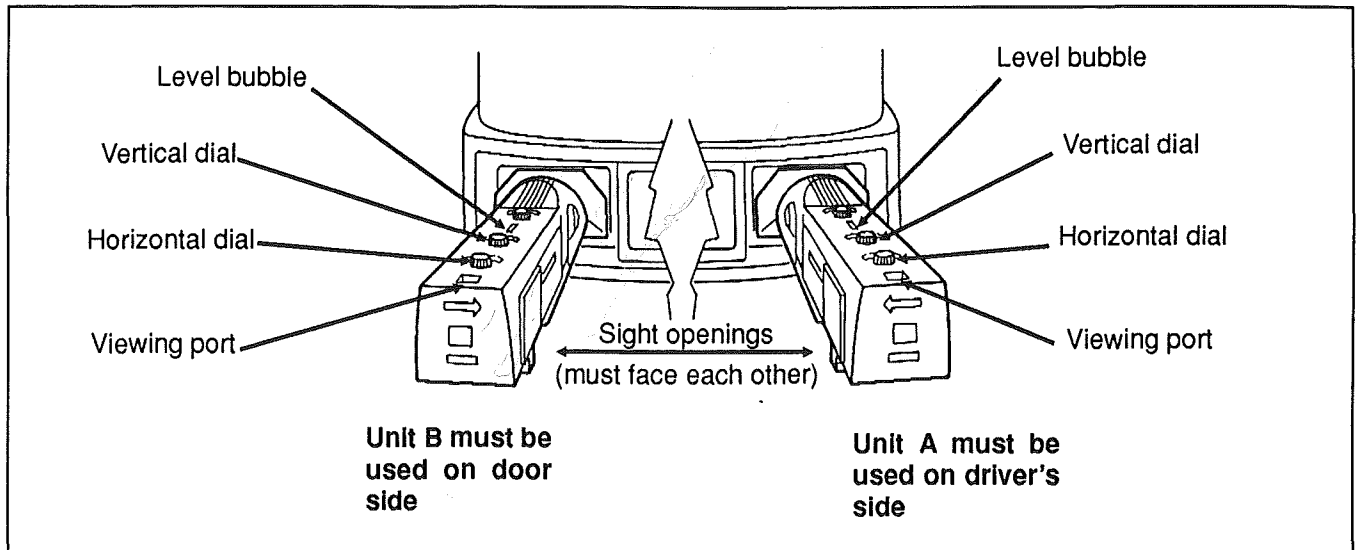

FIG. 41
2. Install aligners on headlights (unit A on driver's side and unit B on other side with the sight openings facing each other), by pushing the handle forward to secure rubber suction disc, then pull handle until it locks. Refer to figure 41.